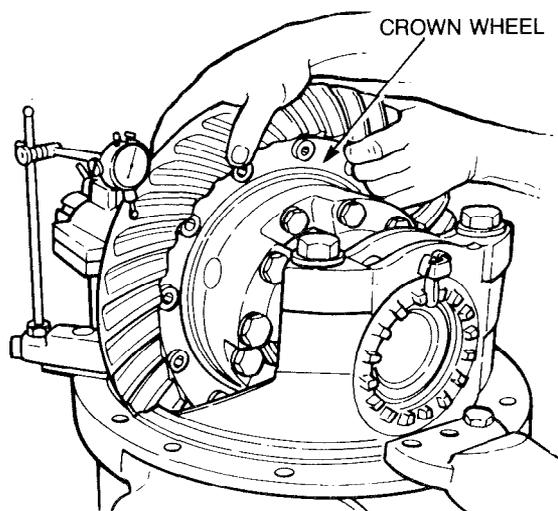

Figure 211 — Positioning Dial Indicator
- u. Relocate the dial indicator so that the plunger rests against one of the crownwheel teeth (see Fig. 211). Block the pinion shaft to prevent the shaft from turning, then check the backlash by turning the crownwheel in one direction, to zero the dial indicator, and turning the crownwheel in the opposite direction to take a reading. A new crownwheel and pinion set should be adjusted to obtain an initial backlash of 0.254 mm (0.010 in.). If adjustment is necessary, back-off